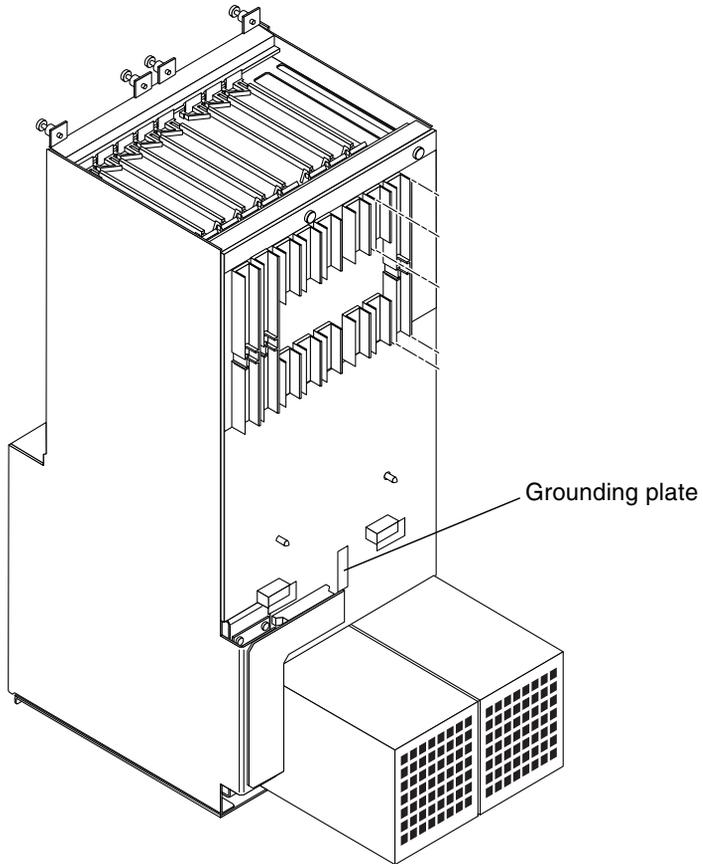

FIGURE 2-10 Installing a Grounding Plate
3. Remove the two screws and install a grounding plate to connect the two studs (FIGURE 2-10).